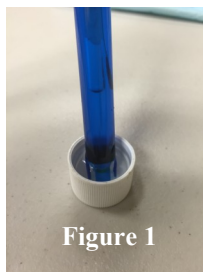

Figure 1
2. Unscrew the storage vial and rinse the pH electrode with distilled water. Insert into vessel containing either member of your pH calibration set (either pH 4 or pH 7 solution). (**Figure 1**)